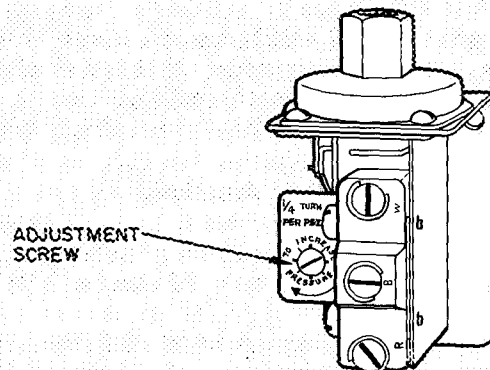

Fig. 18 – Pneumatic-Electric Relay
1. Adjust the pneumatic-electric relay (Fig. 18), inside the machine control panel, to close at 8.5 psig branch air pressure.